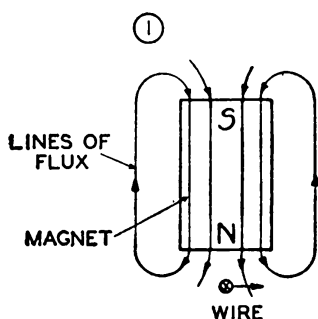
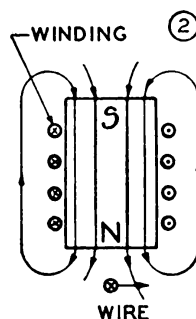

FIGURE 4. Generator theory—
FIGURE 5. Generator theory—
a. The fundamental principle of operation of any generator, either a-c or d-c, is indicated in figures 4 and 5. In figure 4, a permanent bar magnet is shown, with lines of flux leaving the north pole and entering the south pole. If a wire is moved past the pole of the magnet at right angles to the lines of flux, a voltage will be induced in the wire.
- (1) Strength of magnet.
- (2) Length of wire.
- (3) Speed of movement of wire.
d. In practice, an electromagnet (fig. 5) is used rather than a permanent magnet because a permanent magnet tends to lose its strength over a period of time. Also, the strength of an electromagnet can be readily controlled by the number of turns of wire wound on it and by the amount of current in amperes supplied through this wire.
e. In an actual generator, such as that used in Power Unit PE-75-(*), the field poles serve as electromagnets. The armature winding acts the same as the wire shown moving past the end of the magnet in figures 4 and 5. This movement is said to "cut the lines of flux" of the magnet. This induces an alternating voltage in the armature winding, which is con-